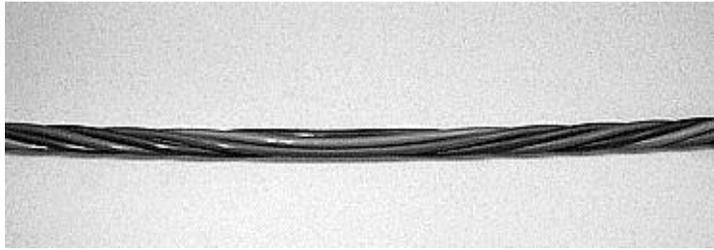

Figure 22 – Reversal Point
5.8 Locate a buffer tube reversal point by removing the outer cable jacket in 12 inch sections. The reversal point is the point where the twist of the buffer tubes changes direction (Figure 22). Alternately remove (to the left and right) 12-inch sections of the outer cable jacket until the reversal point is located.